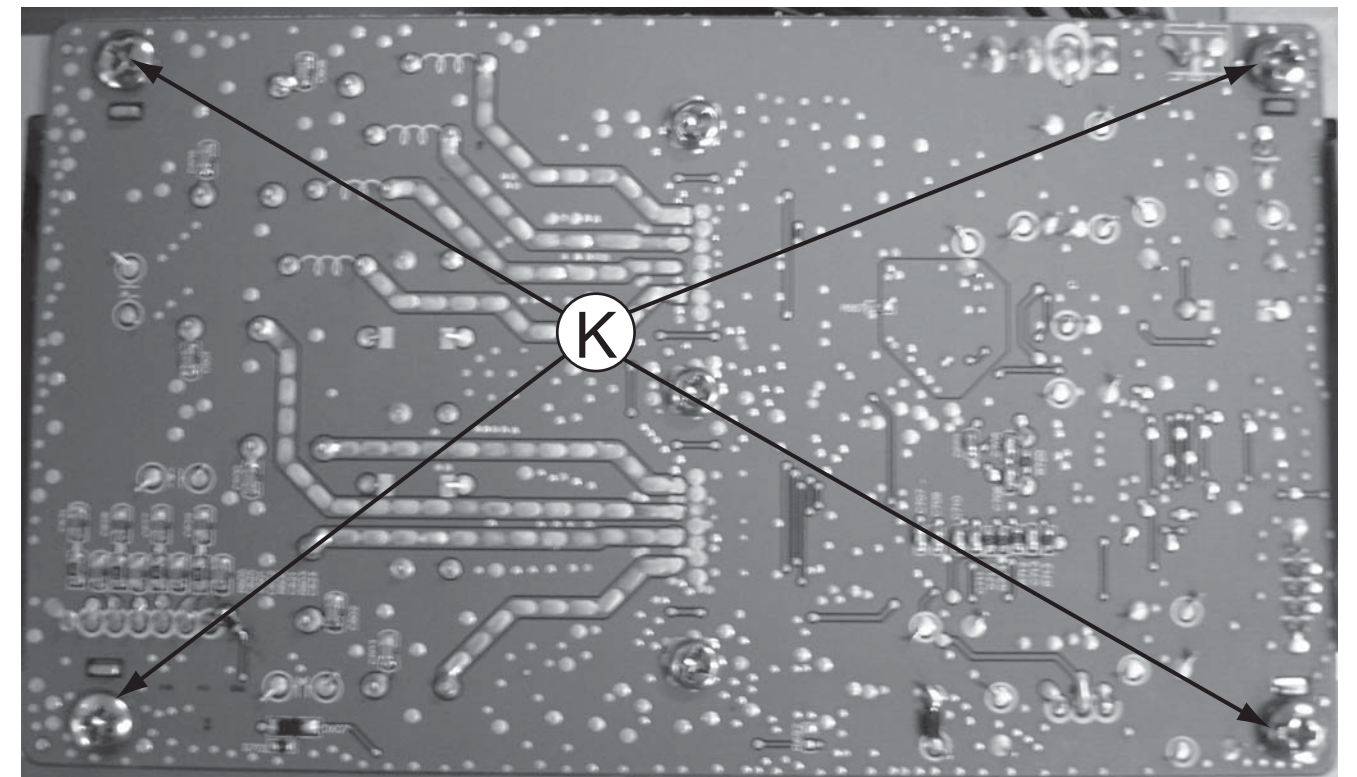

Figure 12
- 1) Loosen 4 screws "K" on the AMP PCB bottom to remove AMP PCB as shown in figure 12.